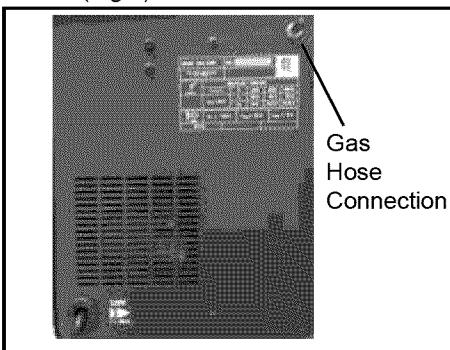

Fig. 8
1. Connect one end of the gas hose to the gas hose connection on the back of the welder (Fig 8).
- Travel direction is the direction the torch is moved along the weld joint in relation to the weld puddle. The torch is either PUSHED into the weld puddle or PULLED away from the weld puddle. For most welding jobs you will pull the torch along the weld joint to take advantage of the greater weld puddle visibility. (Fig. 8)